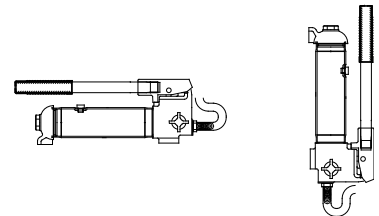

Figure 3 - Variable Position
1. Pump may be used in horizontal or vertical position as illustrated (ref. Figure. 3).